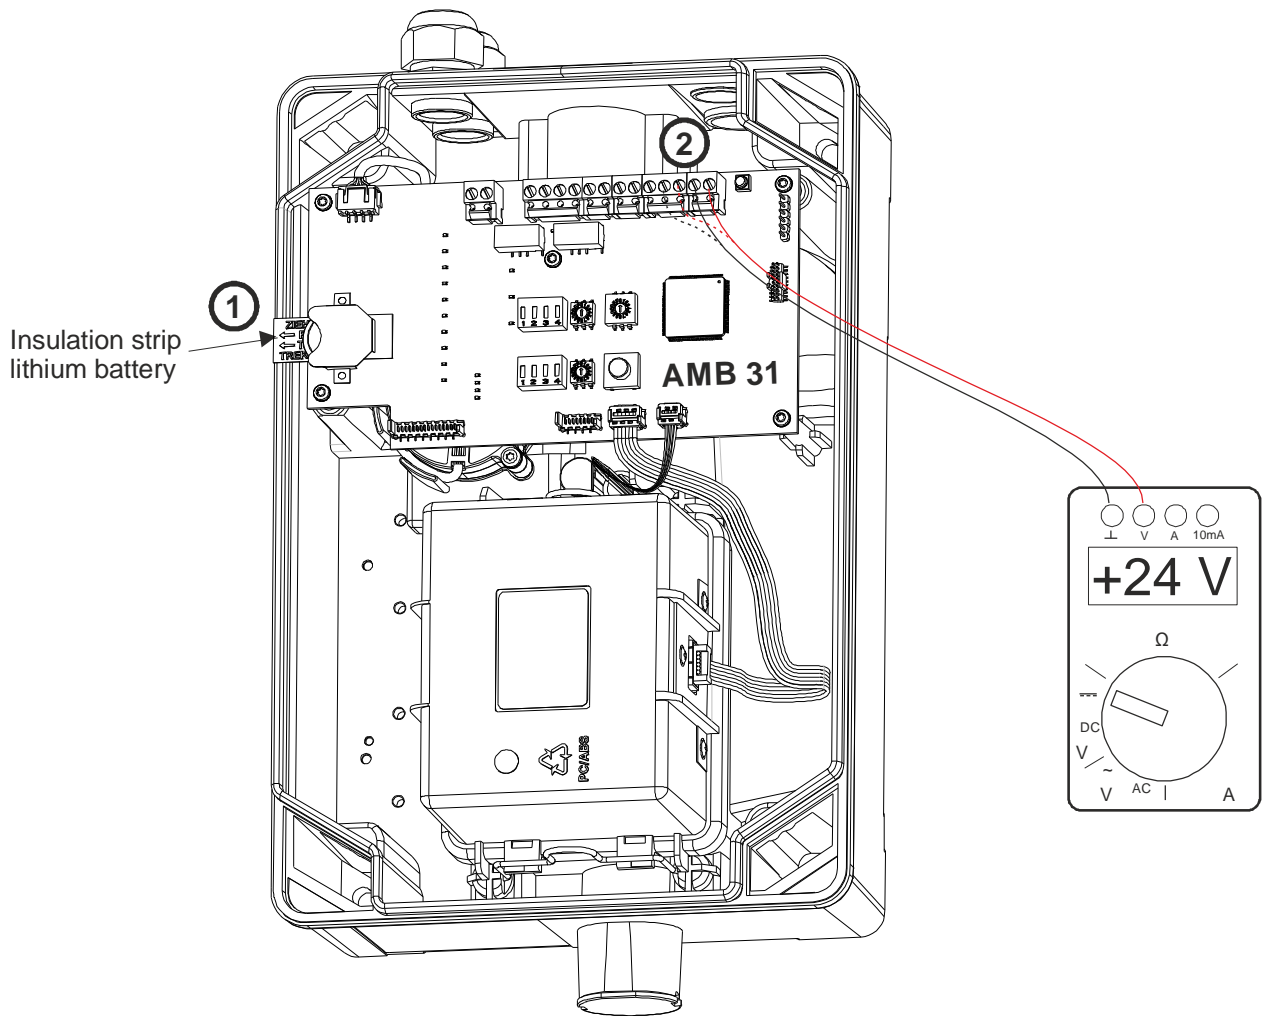

Fig.44 Detector housing opened for commissioning
- Remove isolation strips of lithium battery (on AMB 31) (see Fig.44 (1)).
- Check the voltage on terminals 1 and 2 (check also terminals 3 and 4 in the case of a redundant supply): 21.6 to 27.6 VDC (with 24 VDC power supply) (see Fig.44 (2)).